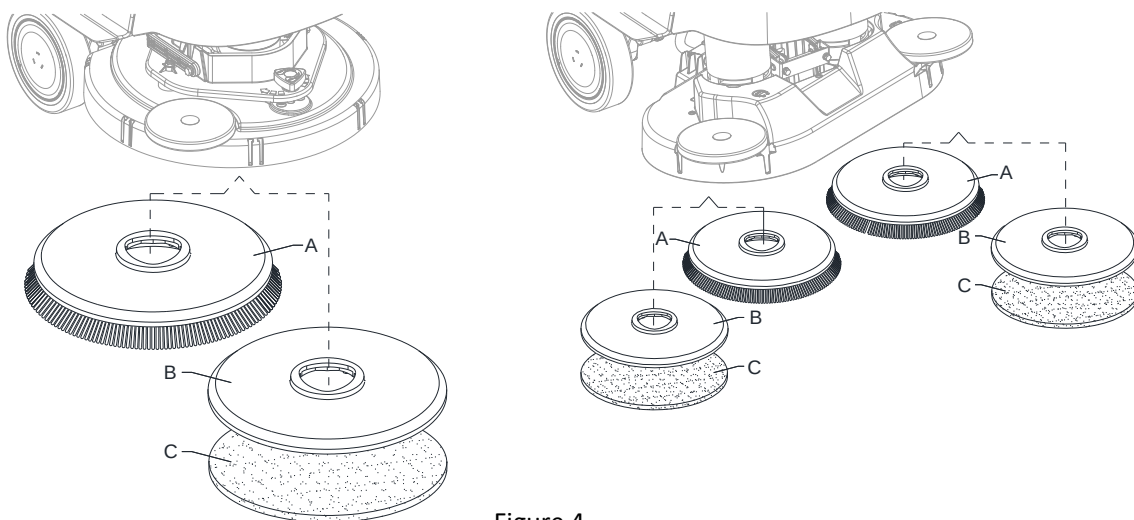

Figure 4
According to the kind of cleaning to be performed, the machine can be equipped either with the brush (A, Fig. 4) or the pad-holder (B) with pad (C) together with the appropriate deck.
1. 1.Place the brush (A) or the pad-holder (B) under the brush deck (39) / Dual disc deck (43).
2. 2.Press start/stop button (62) and enter password to start machine. Roto dial button (67) to select brush click on/off mode (71), press dial button (61) to confirm.